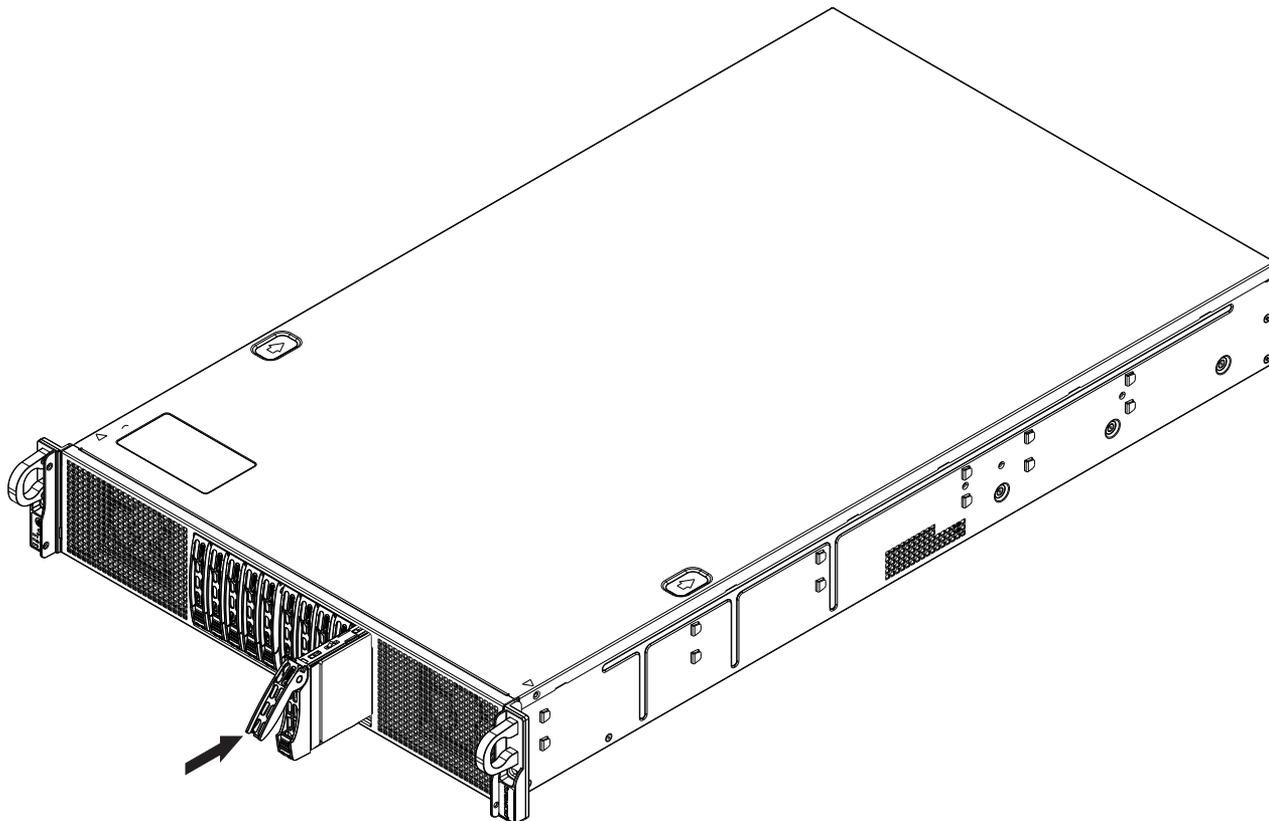

Figure 6-3 System Hard Disk Installation Example
6. Using your thumb, push against the upper part of the hard drive handle until the assembly clicks into the locked (fully seated) position, see Figure 6-3 on page 49 for an example.